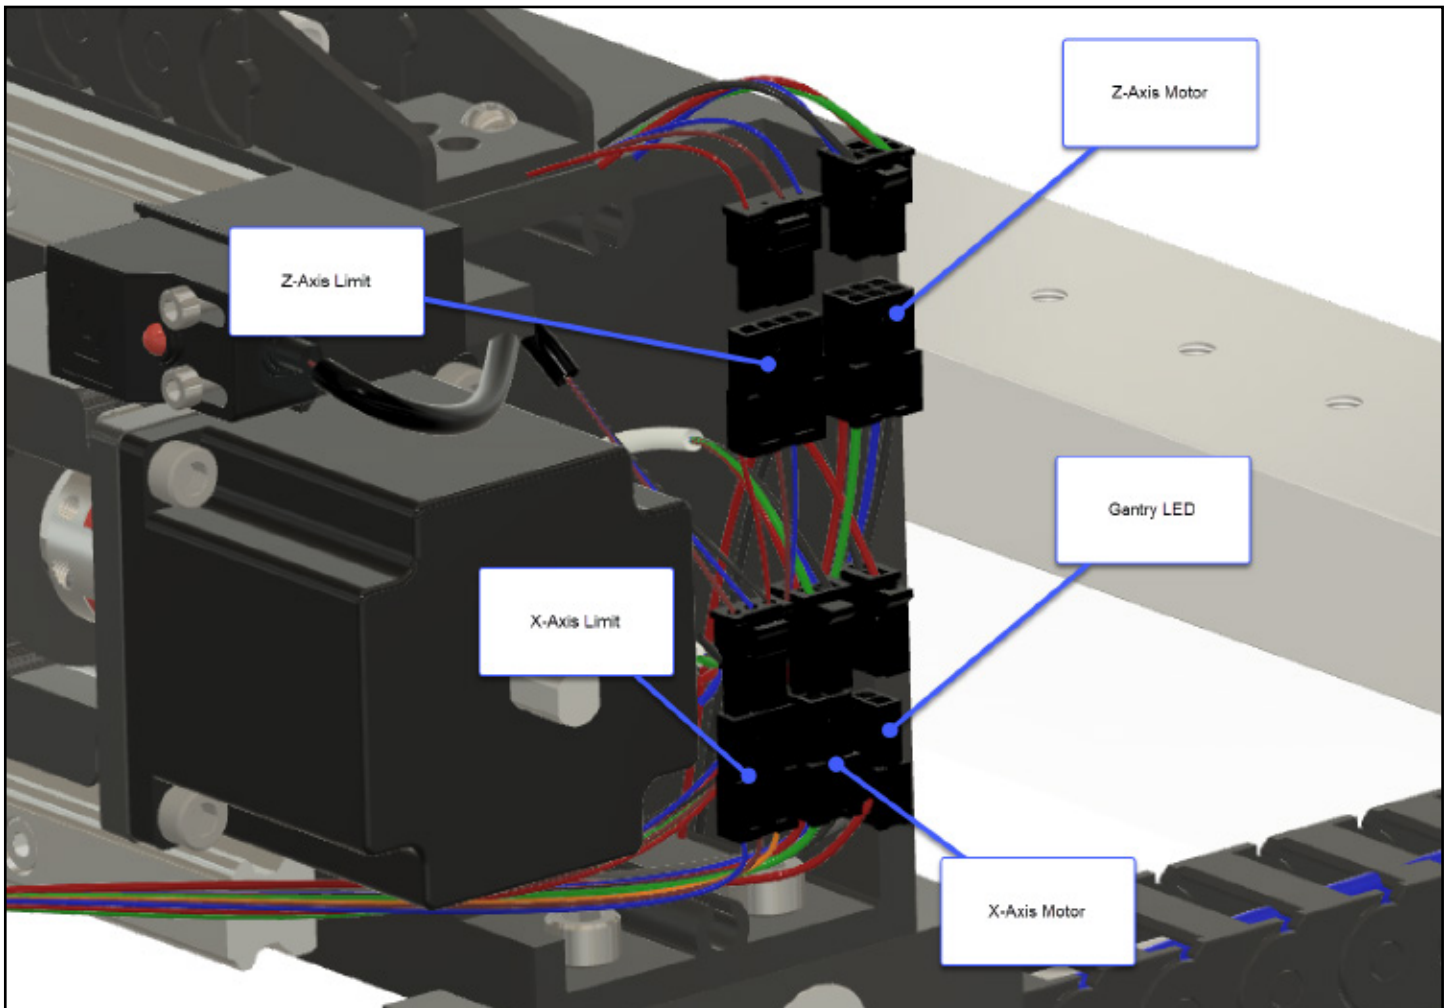

Figure 4-7
2. Connect the gantry LED. See **Figs. 4-7** and **4-9**.